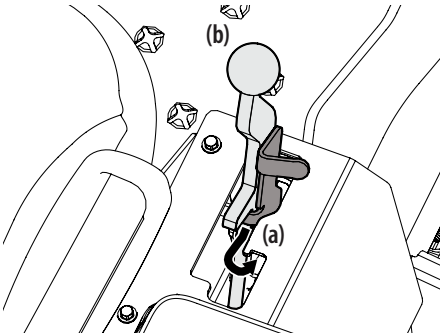

Figure 1
1. To engage the transmission bypass, pull the transmission bypass lever (a) located to the right of the operator's seat (next to the park brake lever (b)), back and into the notch on the right side of the slot. See Figure 1.